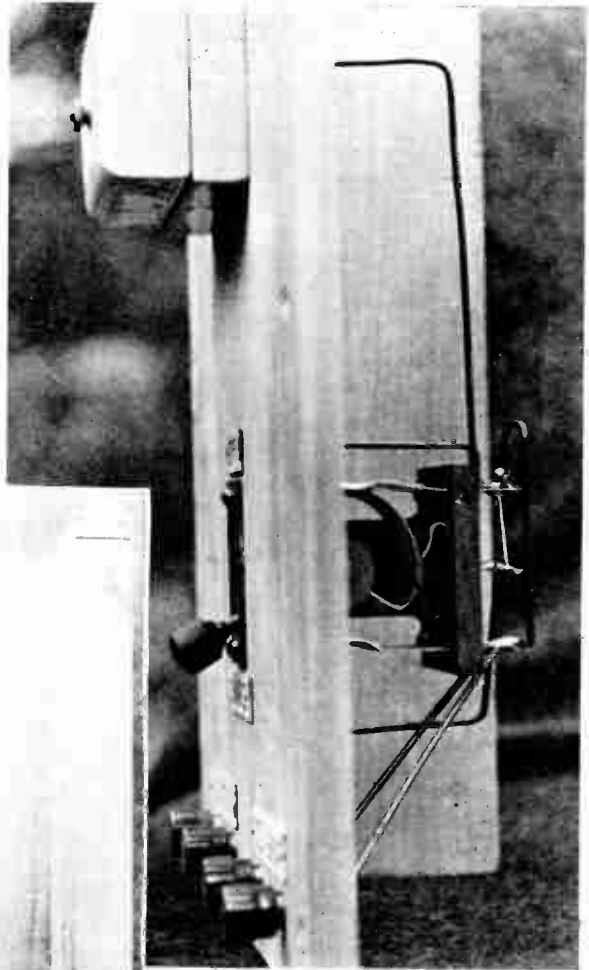
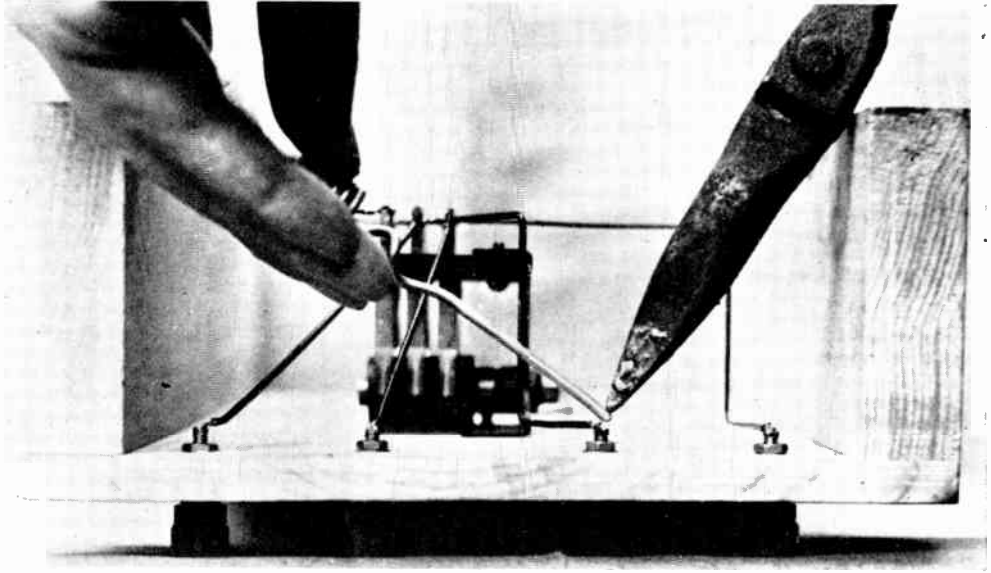

Fig. 6.—SIDE VIEW OF L.T. CHARGING SET FOR D.C. MAINS.
Fig. 8.—SOLDERING THE CONNECTIONS ON L.T. CHARGING SET FOR D.C. MAINS.
fuse. It will be necessary to drill two holes for wires to the fuse. To do this, screw the fuse temporarily in position, then mark the board through the connecting collars with a nail or other pointed article. Then remove the fuse and drill the two holes about twice the size of the wire to be used. Finally, connect up the set, as shown in Fig. 6. The wiring of the set is done with 16 S.W.G. insulated wire, all connections being made behind the board. All the joints, except those to the fuse are soldered (Fig. 8). Start the wiring by soldering the two connections between the switch contacts 2 and 9, and 1 and 6 (Fig. 6). The other wires are quite straightforward, and may be fixed in any order, while keeping the wires well spaced they should be as short as possible. It should be noted that one of the points (3) on the switch is left blank. The board is now mounted on the wall next to the house fuse-board with the four lip plates mentioned in the list of parts.